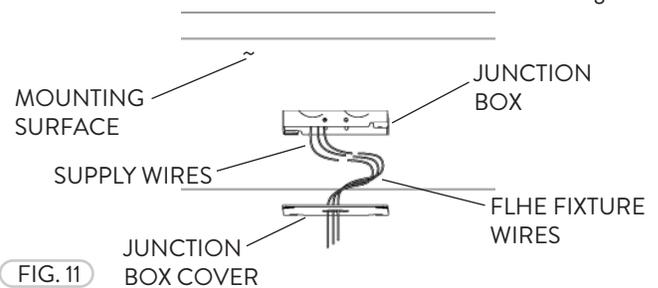

FIG. 11
- 3 After the FLHE fixture is properly secured into place, refer to the Wiring Diagram to install the fixture to an AC Power Supply. All connections must be made inside a J-Box (not included) (Fig. 11).